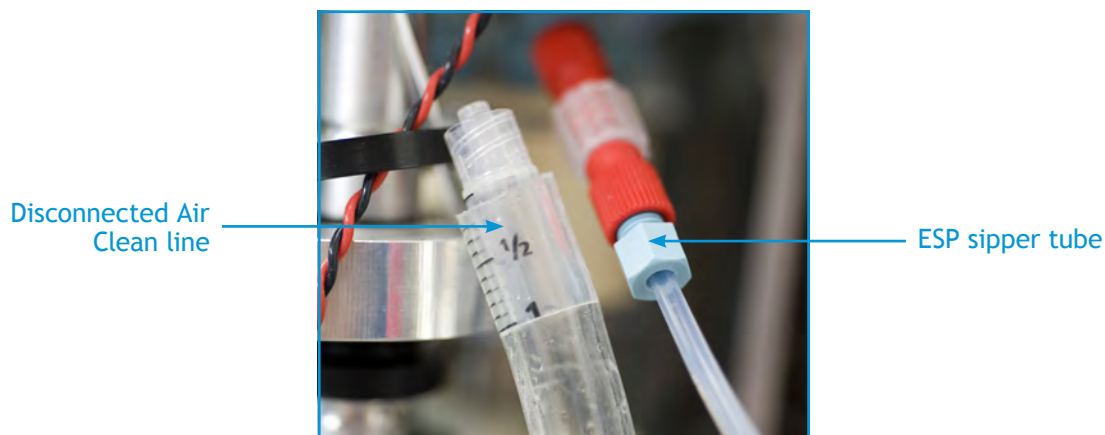

Figure 1-12: ESP sipper tube connected to Air Clean line
- e. Connect an ESP access tube to the portion of the Air Clean line leading to the PSV. See Figure 1-12.